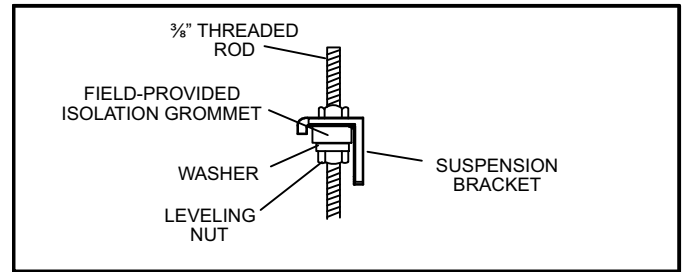

Figure 4. Isolation Grommet
- 5 - If necessary, install a field-provided isolation grommet as shown in figure 4 to prevent transmission of vibration from unit to structural ceiling.
- Install a field-provided isolation grommet as shown in figure 4 to prevent transmission of vibration from unit to structural ceiling.